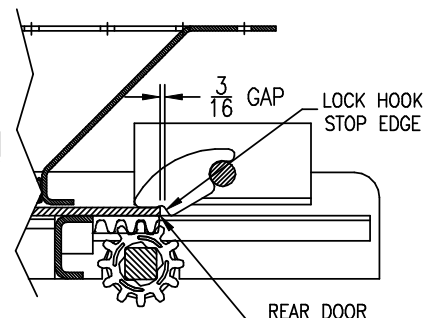

FIGURE 1.5
THE 30 x 30 AutoLOK™ II SHOWN ABOVE IS IN THE CLOSED POSITION. THE RAIL CAR SEAL SLOTS ARE VERTICALLY ALIGNED WITH EACH OTHER. THE LOCK HOOK EXTENDS BELOW THE REAR DOOR EDGE PROVIDING APPROXIMATELY 3/16" CLEARANCE GAP (SEE FIGURE 1.5). THE NAME TAG IS ON THE RIGHT HAND SIDE OF THE GATE.
1. MANUAL OPERATION: INSERT A 1 1/2" DIAMETER BAR INTO THE GATE HANDLE AND ROTATE AS SHOWN UNTIL THE DOOR REAR EDGE TRAVELS PAST THE LOCK HOOKS' STOP EDGE SHOWN IN FIGURE 1.5 ABOVE. THE GATE LOCK HOOKS WILL SNAP AGAINST THE DOOR TOP AS THE DOOR COMPLETELY SHUTS LOCKING THE DOOR. IMPORTANT: WHEN THE DOOR IS COMPLETELY CLOSED AND LOCKED, SEAL SLOTS WILL AGAIN ALIGN VERTICALLY AS BOTH THE CAM FOLLOWER LOWER FLAT EDGES AND HANDLE CAM FLATS WILL BE HORIZONTAL. (SEE FIGURE 1.4 ABOVE) IF NOT, THE DOOR IS NOT COMPLETELY CLOSED, OR THE GATE IS "OUT OF TIME". SEE RE-TIMING INSTRUCTIONS ON PAGES 4-5.
1. COMPLETELY CLOSE AND LOCK DOOR. SEE FIGURE 1.5 ON PAGE 3.